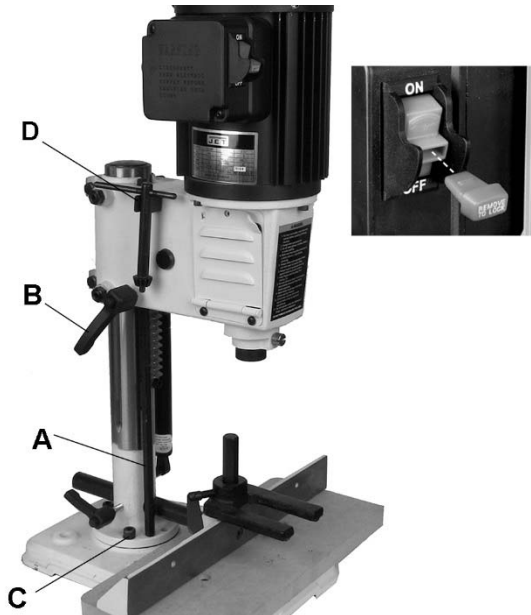

Figure 10-1
The switch (inset photo, Figure 10-1) has a safety key that, when pulled out, allows the switch to be locked in OFF position. The key must be reinserted to start machine.
The depth stop rod (A, Figure 10-1) is used to limit the depth of the chisel cut. Loosen handle (B, Figure 10-1) and lower head until bottom of chisel is at required depth. Lower depth stop rod until it is at rest against the base. Re-tighten handle (B).
1. Using a 4mm hex wrench, remove *four* screws, lock washers and flat washers (C, Figure 10-1)
Note: Only one screw is visible in Figure 10-1.
Store chuck key by pushing into holder (D, Figure 10-1).